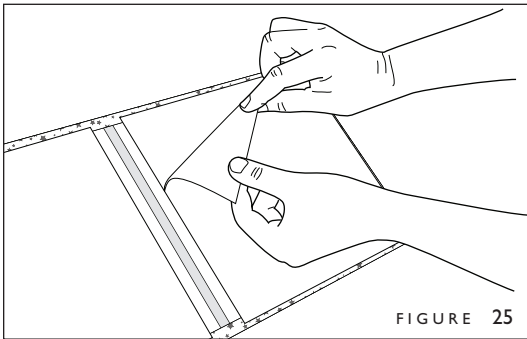

FIGURE 25
2. Continue to lift the release paper around the top edge of the cover and then down to the spine edge of the liner (Figure 25).